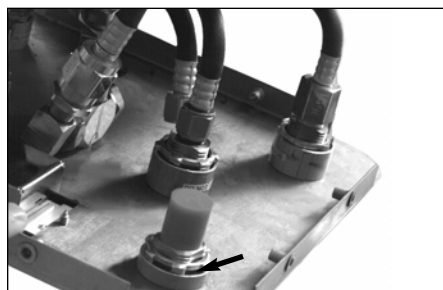

Figure 5
2. Assemble the spacer onto the valve and thread the locking nut on the valve. Tighten the locking nut using adjustable pliers (Figure 5).